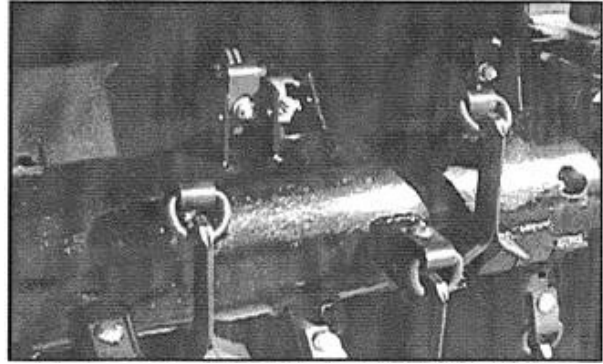

Figure 39. Flail Replacement
6. Replace with new flails and and mounting hardware (see Figure 39).